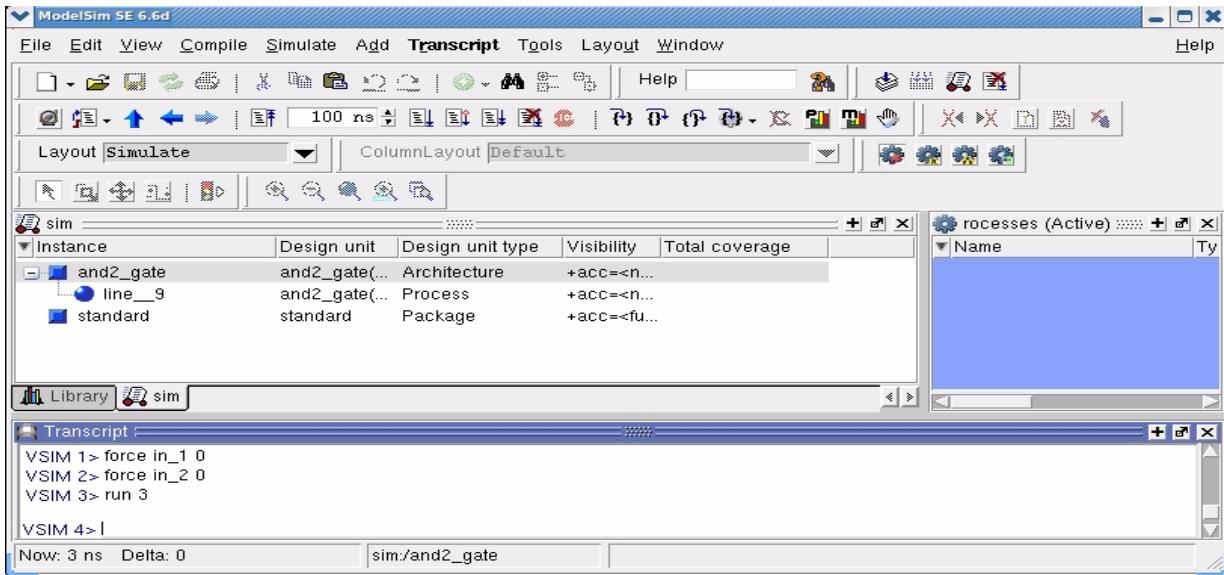

Figure 4: Issueing a force command from the Simulation window.
(5) One can manually **assign values to signals** using the **force command**. This command is issued from the Transcript portion of the Simulation window. Enter the following commands from the bottom portion of the Simulation window as shown in Figure 4: